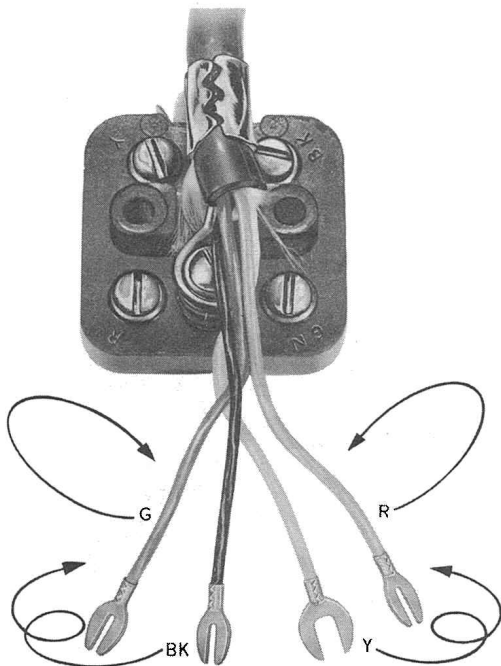

Fig. 35 — D4BP Cord Ready to Terminate
- (3) With small eye of S hook up, insert RM-658901 self-tapping screw with P-284139 flat washer through large eye of S hook. Using farthest hole opposite cord entrance (Fig. 35 and 36), anchor cord securely.
- (4) Lay the cord conductors out straight from the end of cord (Fig. 35). Pass the green conductor to the right and under the cord, and terminate it on the GN punching.